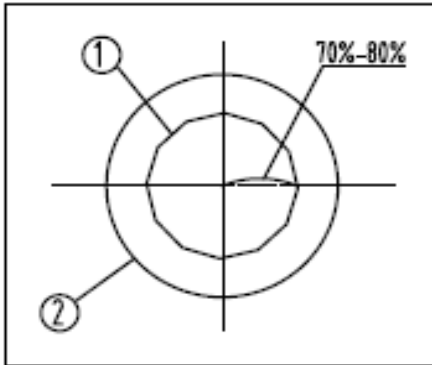

Fig. 14
2. Adjust condenser adjustment knob (3) in a clockwise direction, raise the condenser to the top to allow the illumination to fill the field of view. If the specimen contrast of your sample is low, it is advised to adjust the condenser aperture diaphragm to be 70%-80% of the N.A. of objective. Rotate the aperture diaphragm adjustment ring (4), align the arrow with the magnification position on the condenser (5). The eyepiece can be taken off if necessary to observe from the eyetube. Adjust the aperture diaphragm (14) adjustment ring (4) until it matches the figure as shown in Fig.14, to adjust the proportion (see Fig. 14&15, (1) is placing the image of the aperture- diaphragm, (2) is the edge of objective).